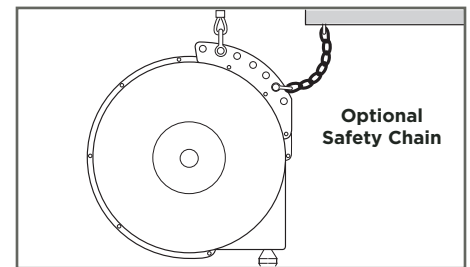

Figure 1
2. Attach optional safety chain to secondary hanger bracket or other overhead support. Do not use the same attachment point as used for the clevis. See Figure 1.